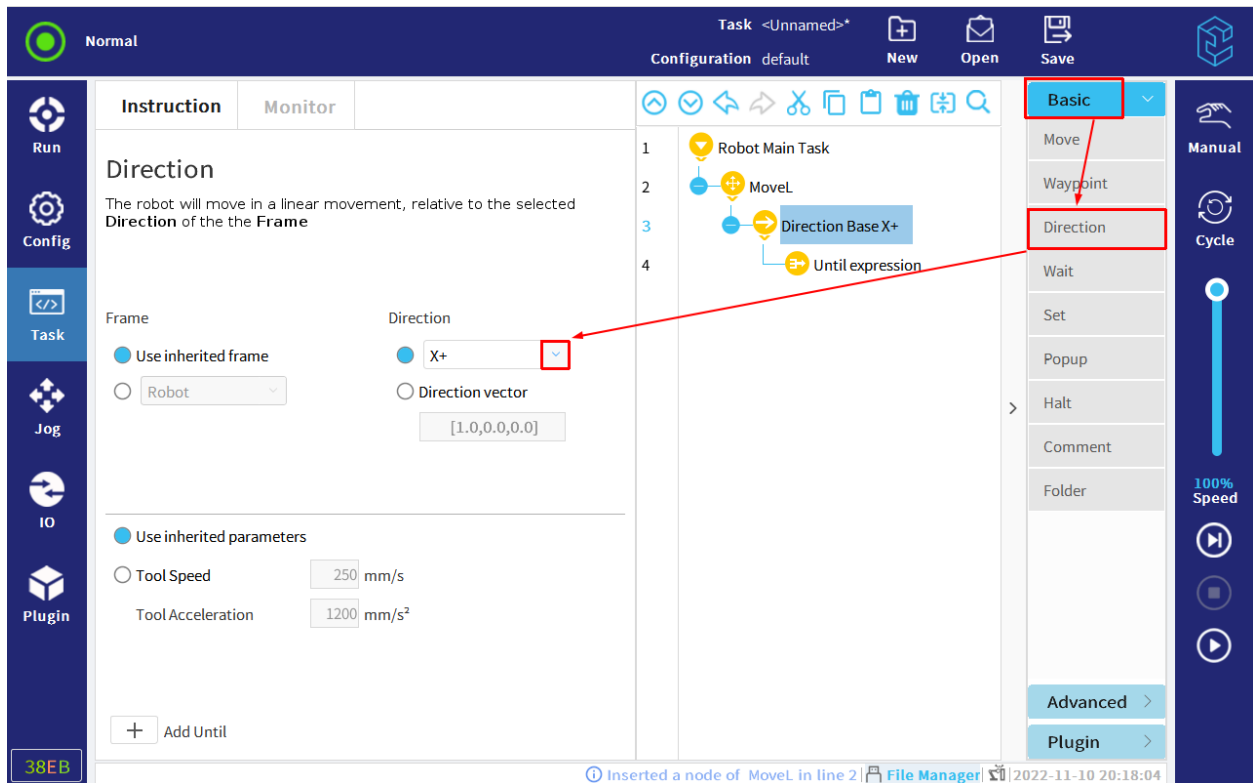

Figure 12-11 Add directional movement
2. Under "Frame", define linear movement, as shown in Figure 12-11.